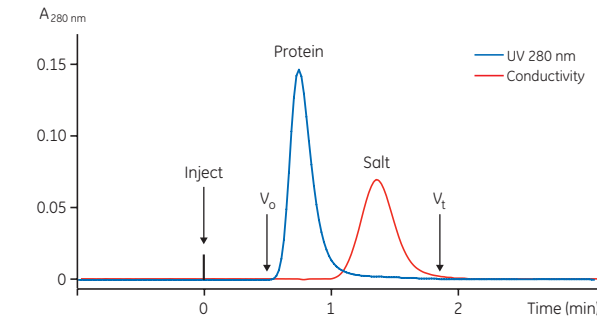

Fig I.2. Typical group separation.
1. **Group separations:** the components of a sample are separated into two major groups according to size range. A group separation can be used to remove high- or low-molecular weight contaminants (such as phenol red from culture fluids) or for desalting and buffer exchange (Fig I.2).